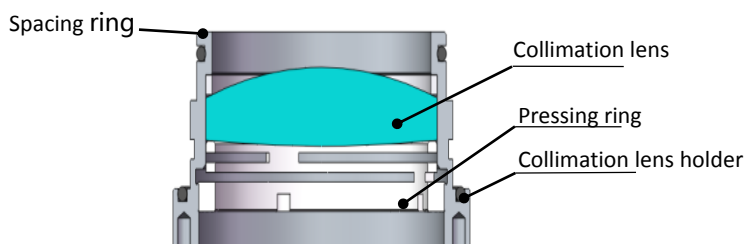

Figure 5.5 — Installation of collimation lens
- As shown in Figure 5.5, reassemble the collimation lens assembly, pay attention to screw the pressing ring properly, and re-screw it into the collimator;